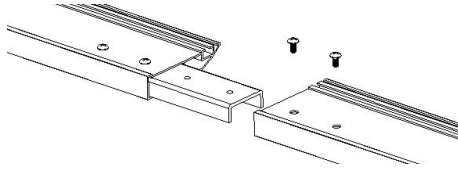

Abb. 1
Place the horizontal frame parts (A) with the flat side on the floor. Place a clean and soft cloth under the frame parts to avoid scratches on the surface. The two vertically cut sides should face each other. Place a connecting element (H) in a frame part according to figure 1. Make sure that the holes are aligned. Now screw the connecting element (H) in place with two screws (J). Once this is fastened, push the element into the other frame part (A) and make sure that the holes are aligned. Now screw the connecting element (H) in place with two screws (J).